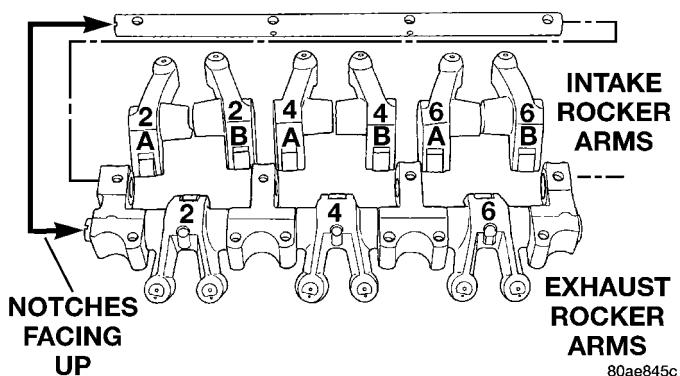

Fig. 39 Rocker Arms and Shafts
(1) Remove cylinder head covers. (Refer to 9 - ENGINE/CYLINDER HEAD/CYLINDER HEAD COVER(S) - REMOVAL)
(2) Identify the rocker arm assembly and rocker arms before disassembly (Fig. 39).
(3) Remove rocker arm assembly bolts.
(4) Remove rocker arm assembly.